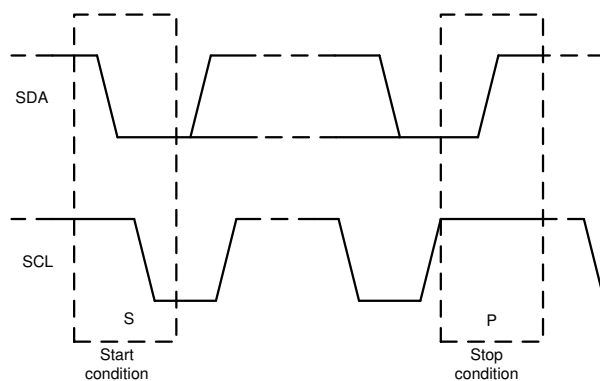

**Figure 7-20. Acknowledge and Not Acknowledge on the I2C Bus**
Other than specific timing signals, the I2C interface works with serial bytes. At the end of each byte, a ninth clock cycle generates and detects an acknowledge signal. An acknowledge is when the SDA line is pulled low during the high period of the ninth clock cycle. Figure 7-20 depicts a not-acknowledge, when the SDA line is left high during the high period of the ninth clock cycle.
2. The controller then generates the SCL pulses, and transmits the 7-bit address and the read/write direction bit ( $R/\bar{W}$ ) on the SDA line. During all transmissions, the controller makes sure that data are valid. Figure 7-22 shows that a valid data condition requires the SDA line to be stable during the entire high period of the clock pulse. All devices recognize the address sent by the controller and compare the address to the respective internal fixed address. Only the target device with a matching address generates an acknowledge by pulling the SDA line low during the entire high period of the 9th SCL cycle (see also Figure 7-20). When the controller detects this acknowledge, the communication link with a target has been established.